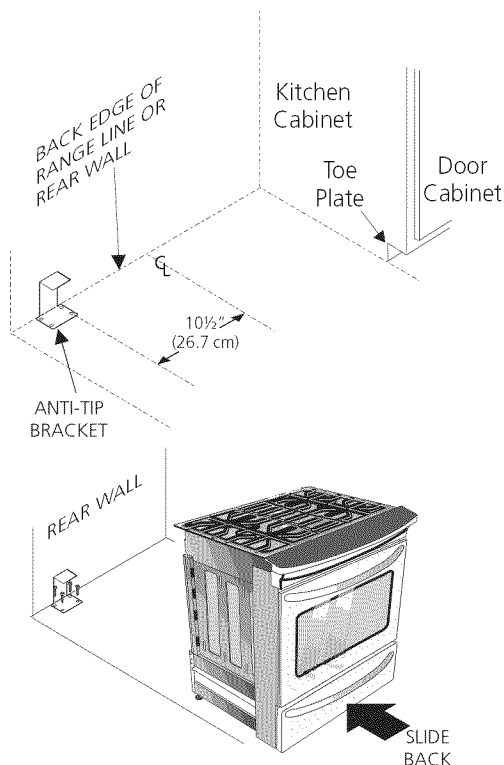

Figure 14
1. Draw a center line (CL) on the floor where the range should be installed. Also draw a line on the floor at the range back position if there is no wall.
2. Unfold paper template and place it flat on the floor with the right rear corner positioned exactly on the intersection of the center and back lines you just drew before. (Use the diagram below to locate brackets if template is not available (Figure 14)).
6. Slide range into place making sure structure of the range is trapped by the anti-tip bracket (Figure 14). Lower the range by adjusting the 4 leveling legs until the underside of the cooktop is sitting level on the countertop. Refer to "Leveling the Range" section.